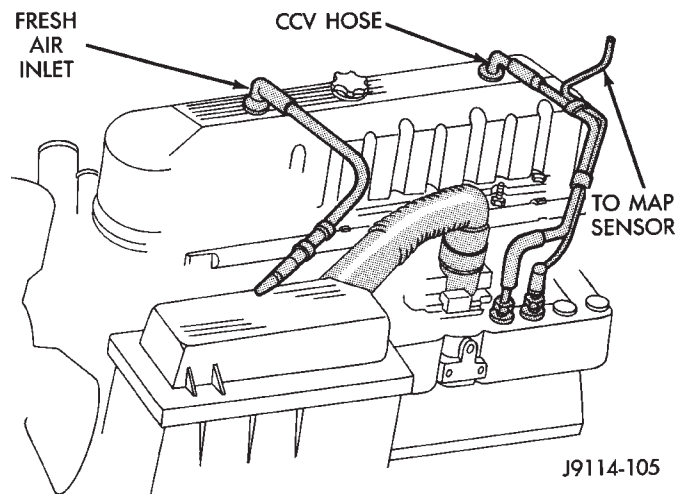

Fig. 1 Engine Cylinder Head Cover
(1) Disconnect negative cable from battery.
(2) Disconnect the Crankcase Ventilation (CCV) vacuum hose from engine cylinder head cover (Fig. 1).
(3) Disconnect the fresh air inlet hose from the engine cylinder head cover (Fig. 1).
(4) Remove the engine cylinder head cover mounting bolts.
(5) Remove the engine cylinder head cover.
(1) If a replacement cover is installed, transfer the CCV valve grommet and oil filler cap from the original cover to the replacement cover.
(2) Install engine cylinder head cover. Tighten the mounting bolts to 13 N·m (115 in. lbs.) torque.
(3) Connect the CCV hoses (Fig. 1).
(4) Connect negative cable to battery.